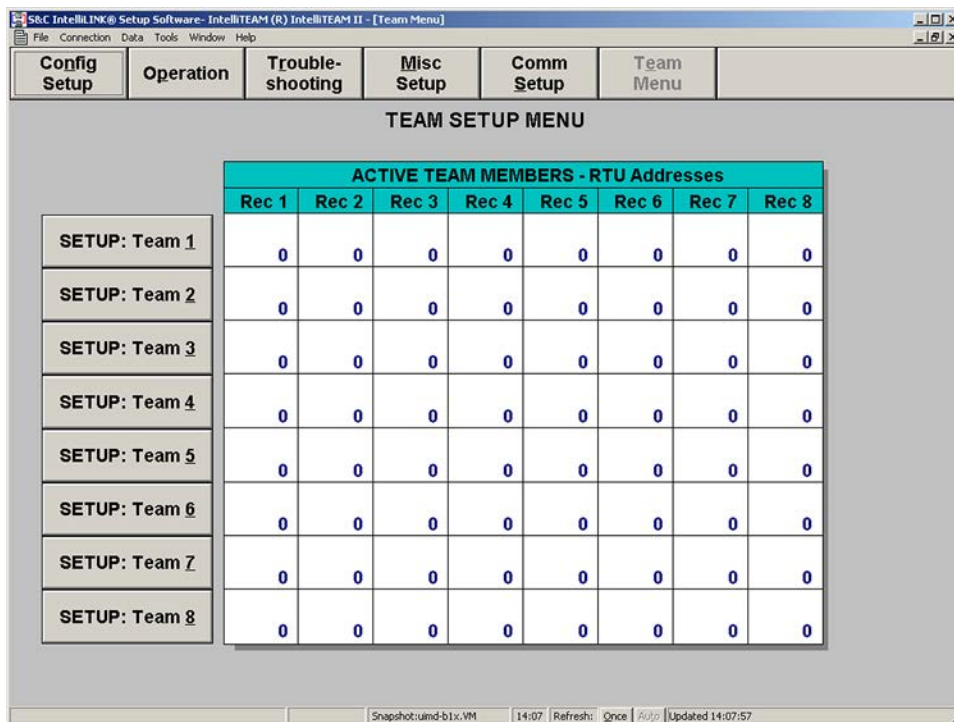

Figure 20. The *Team Setup Menu* screen.
STEP 11. At the *Setup Menu* screen, click on the **Team Menu** button to display the *Team Setup Menu* screen. See Figure 20.